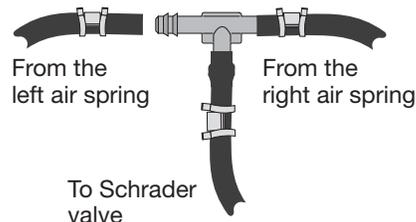

fig. 7
2. Use this procedure (Fig. 7) for all air line connections: